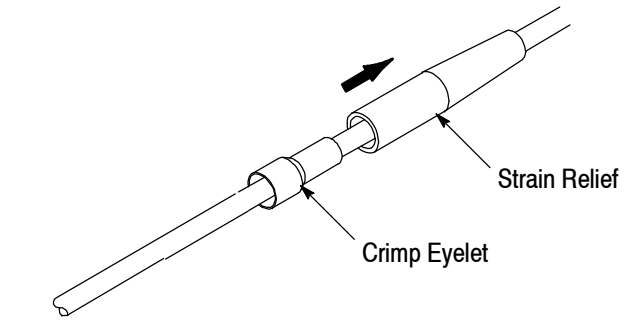

Figure 2
2. Slide the strain relief and crimp eyelet onto the cable. See Figure 2.